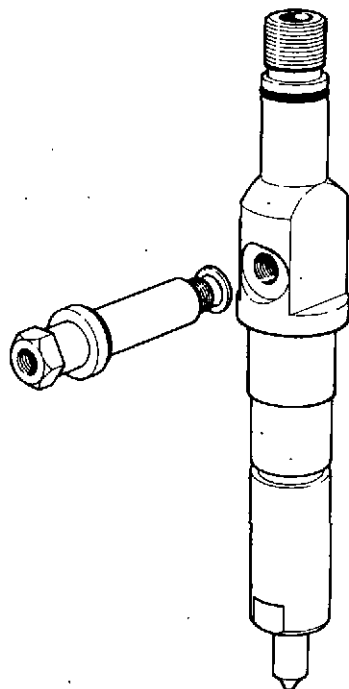

Fig. 6. Fuel injector spill connection
2. Unscrew the injector spill connection (fig. 6) from each injector to be renewed and remove the rocker cover.